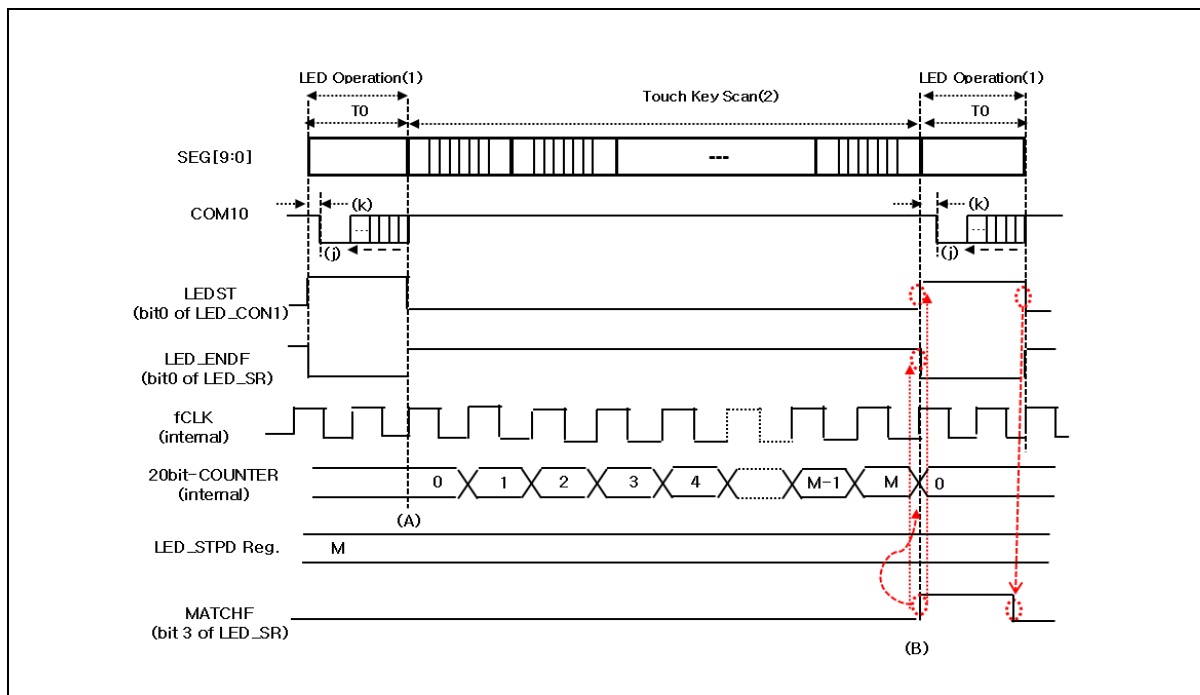

Figure 111. LED STOP Count Mode
Figure 111 shows an example of the LED stop count mode with COMER reg = 000\_0000\_0000\_0000\_0100\_0000\_0000.
As shown in Figure 111, an interrupt occurs at point (A) where the LED operation is terminated when LED\_INTE is set. At the same time, 20-bit counter starts to increase by the internal enable bit. If the 20-bit sized LEDSTPD register is matched with the counter, MATCHF (bit3 of LED\_SR) is set to "1", LED\_ENDF is cleared to "0", 20-bit counter is cleared to "0", and LED starts again as shown at (B).